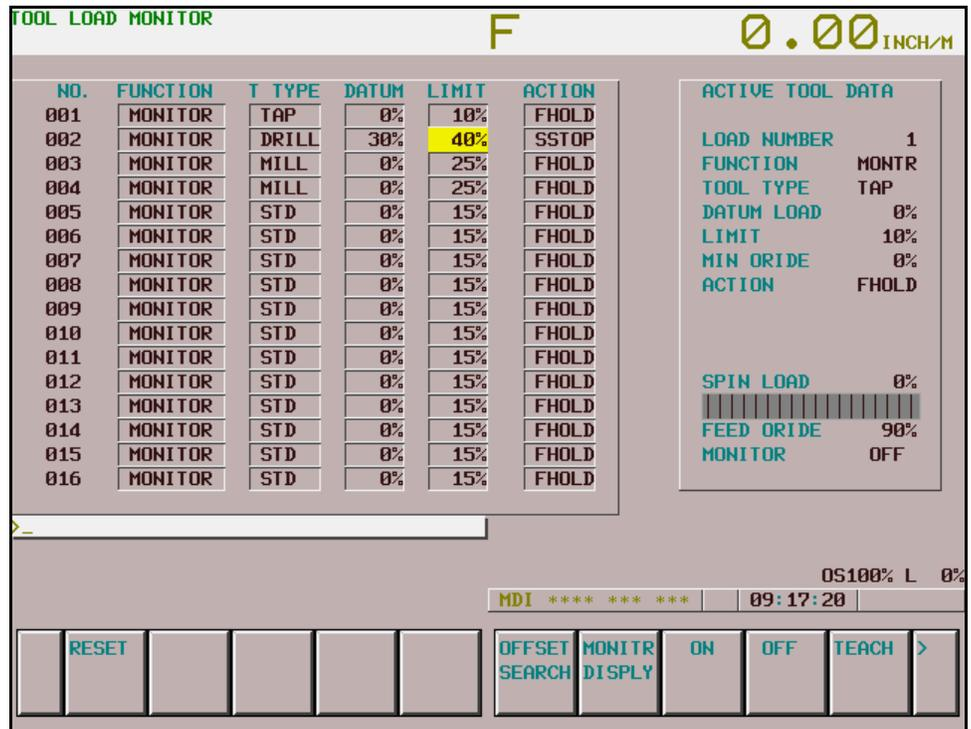

Figure 4-13: Limit
- Use the cursor keys to highlight the tool number required in the Limit column (Figure 4-13:).